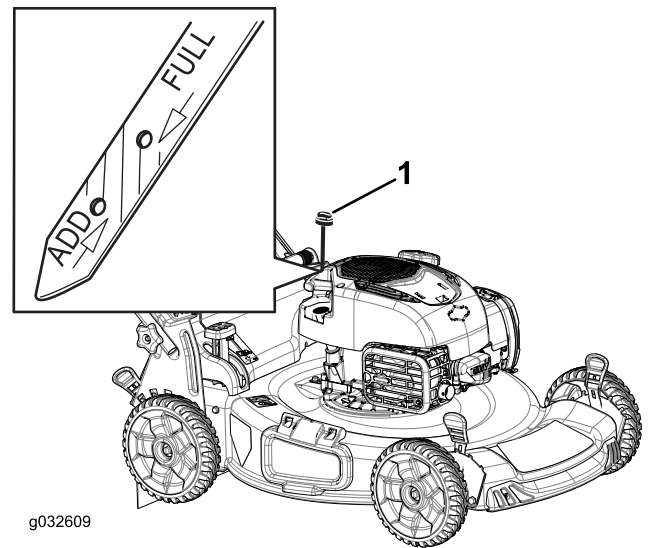

Figure 33
3. Remove the dipstick (Figure 33).
10. Read the oil level on the dipstick (Figure 33).